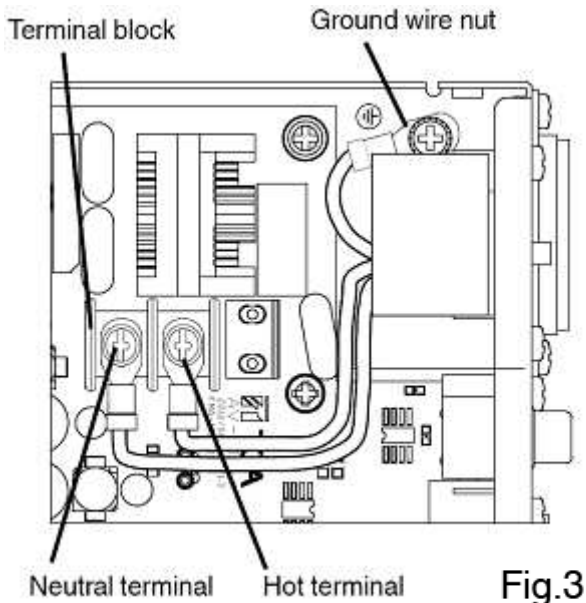

Fig.3
5. Use a standard screwdriver to loosen the screws holding the Hot and Neutral wires on the terminal block (Fig.3).